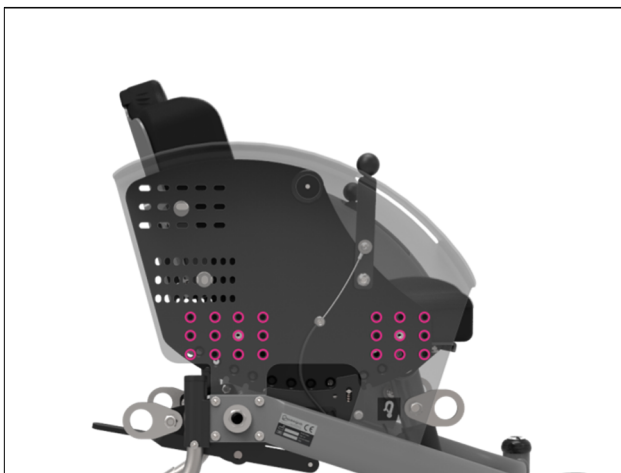

Figure 6: Hole pattern in the clothing guard for adjusting the seat depth
2. Move the seat brackets according to the hole pattern in the clothing guard (see Figure 6).